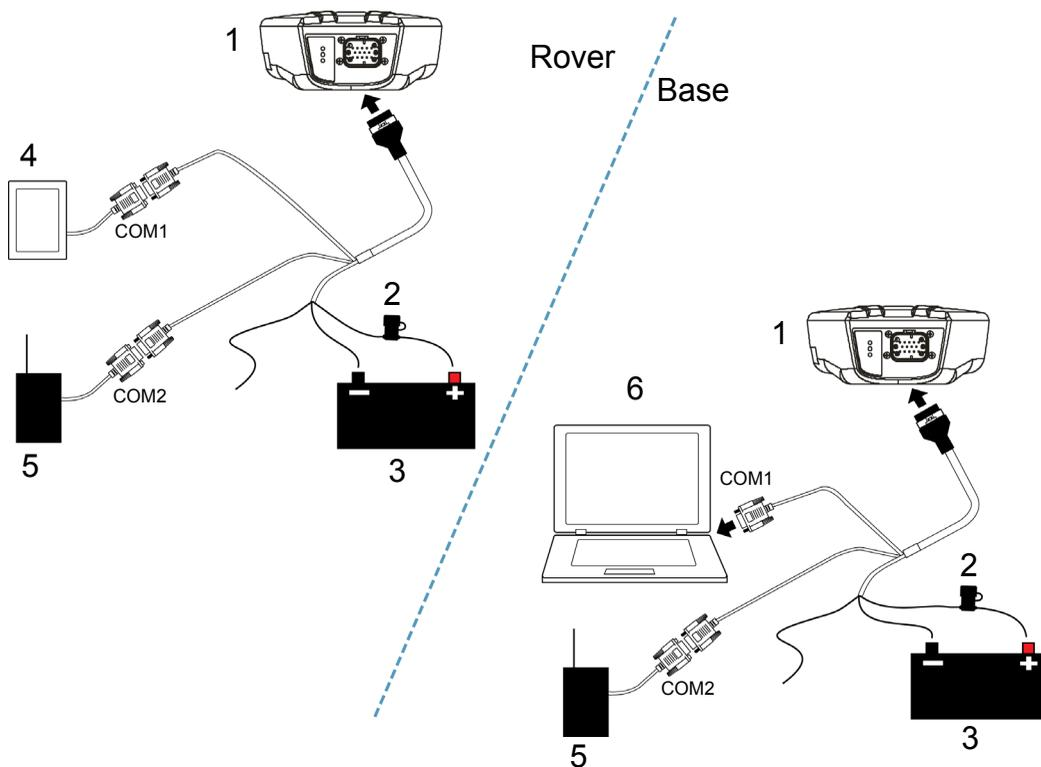

Figure 9: Basic Differential Setup
Before operating the SMART-AG for the first time, please ensure that you have followed the installation instructions in *Chapter 2, Installation and Setup* starting on *Page 20*. The following instructions are based on a COM port configuration such as that shown in *Figure 9 on Page 34*. It is assumed that a personal computer (PC), or laptop, is used during initial operation and testing for greater ease and versatility.
RTK or DGPS corrections can be transmitted from a base station to a rover station to improve position accuracy. The base station is the GNSS receiver, which is acting as the stationary reference. It has a known position and transmits correction messages to the rover station. The rover station is the GNSS receiver which does not know its exact position and can be sent correction messages from a base station to calculate differential GNSS positions. The SMART-AG can be used as a base receiver to transmit RTK or DGPS corrections or a rover to receive the same corrections. An example of a differential setup is given in *Figure 9* on *Page 34*.